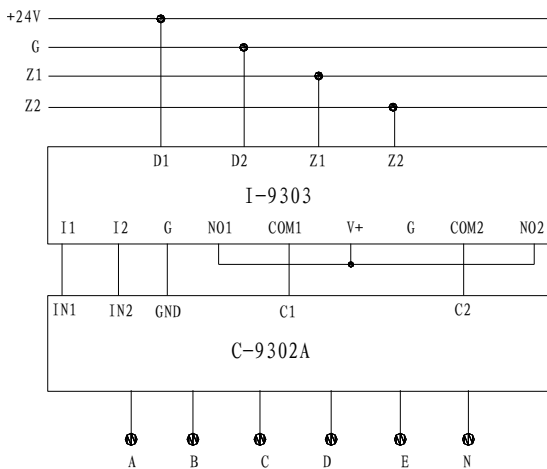

Fig. 4
- ✧ The module should connect with C-9302A when controlling 220VAC devices, as shown in Fig. 4.